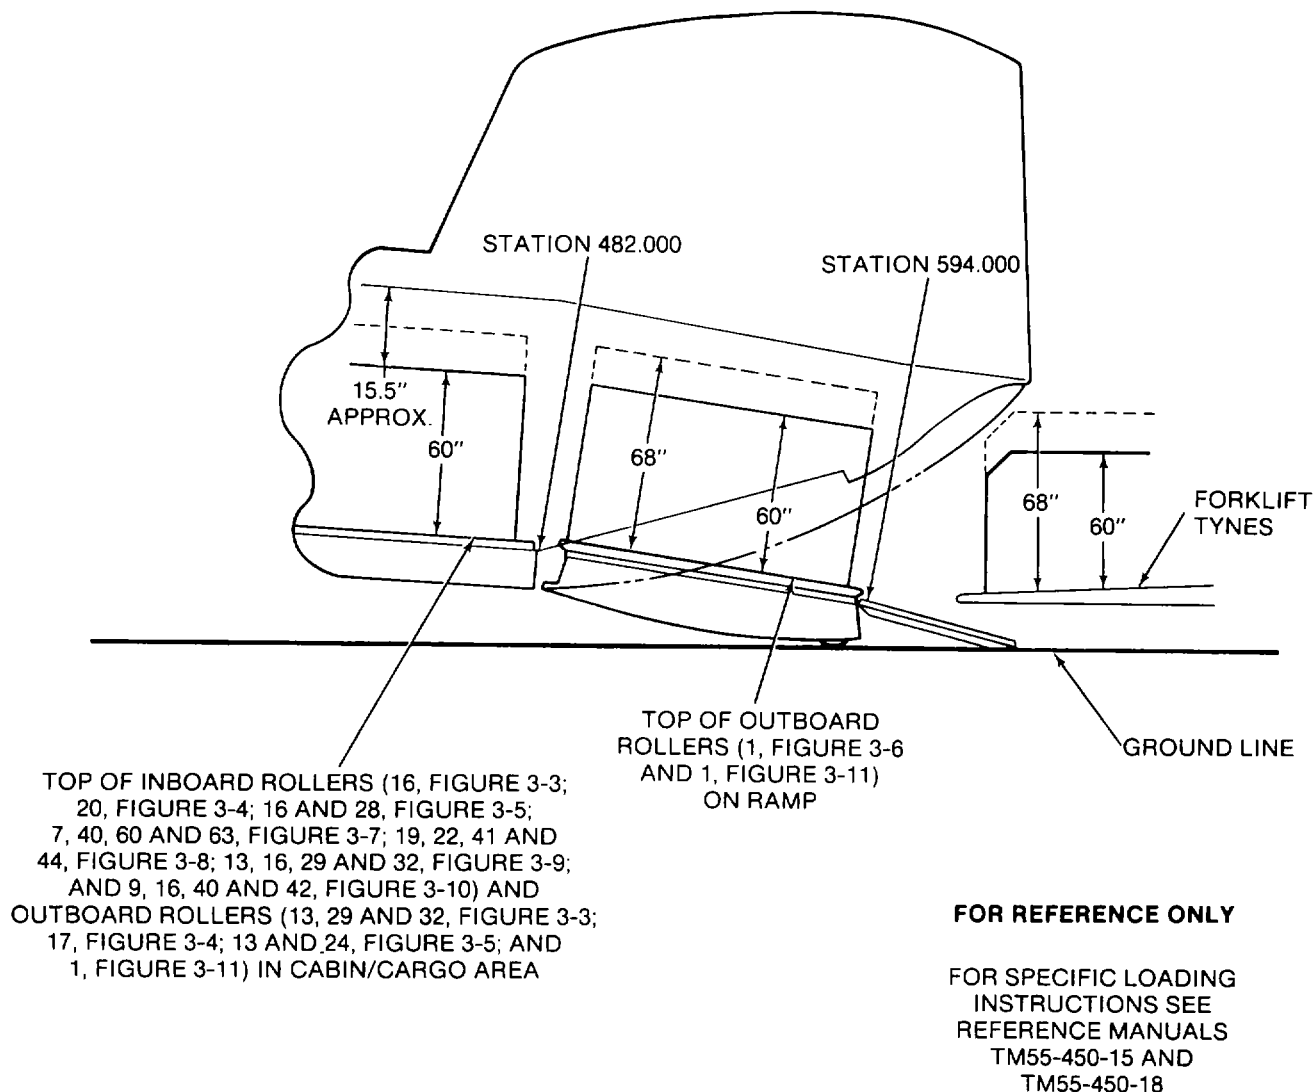

Figure 2-29. Loading With Ramp Down (Forklift Loading)
a. 463L Pallets. Refer to Table 2-6 to select the proper configuration for cargo system components during loading. Up to three pallets may be winched or manually loaded on the system. Loading configurations and clearances are shown in Figures 2-29, 2-30 and 2-31.